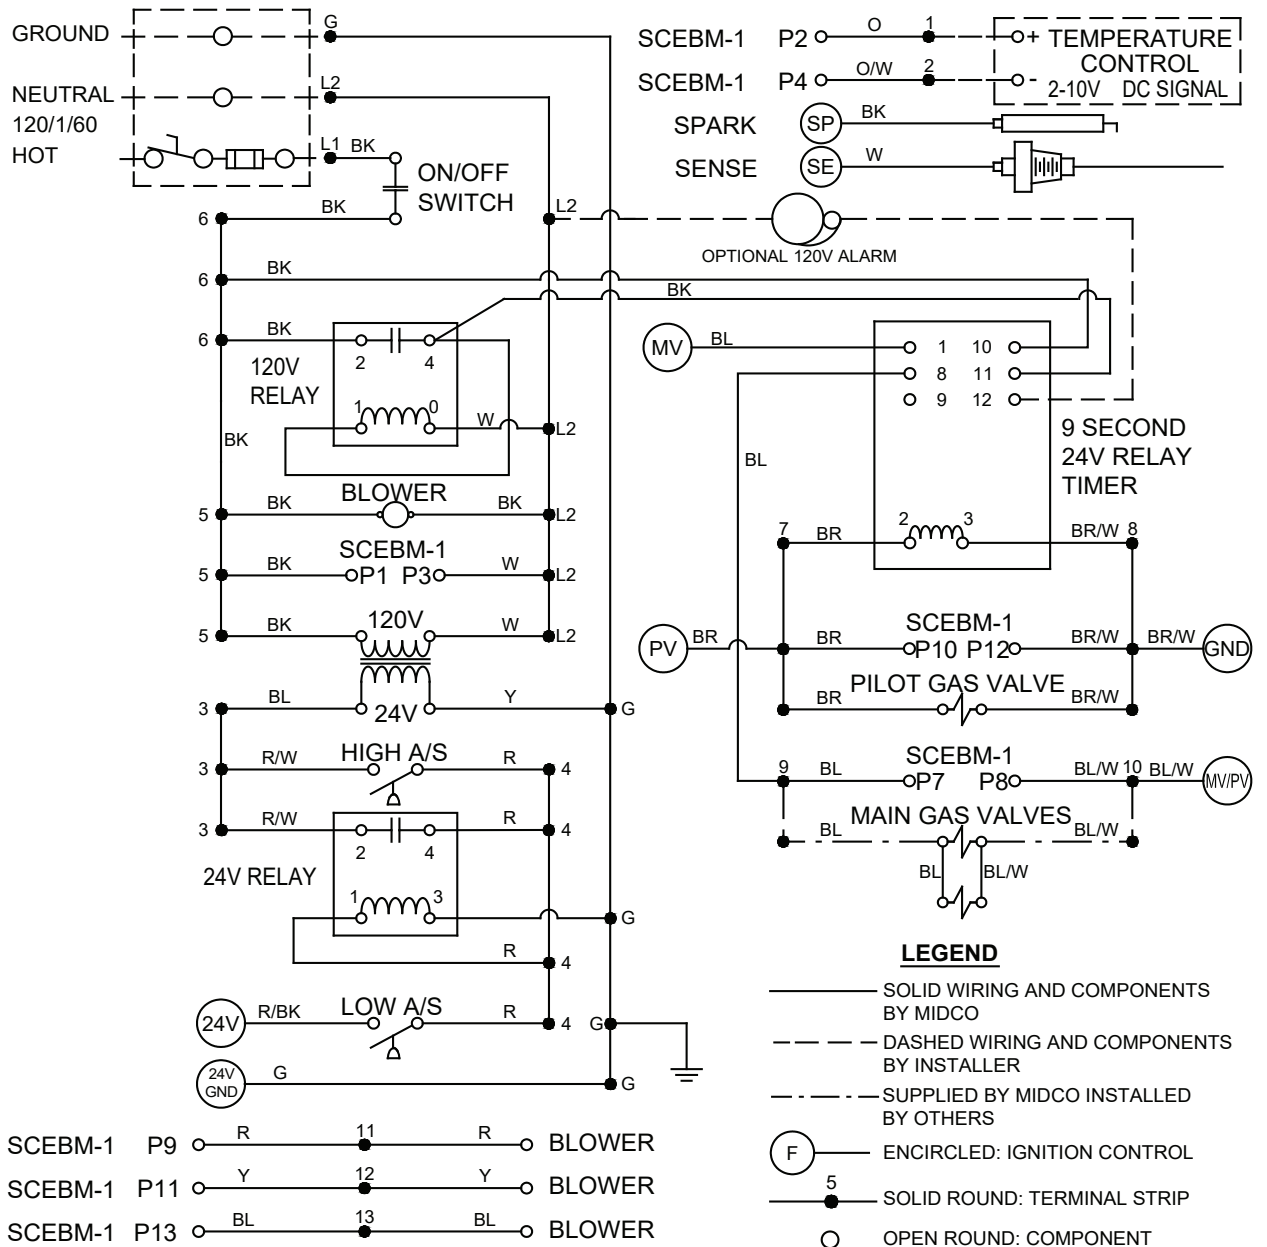

Figure 4E:
- L (Blue) N (Blue/White) and G (Green). (refer to Figures 4E)